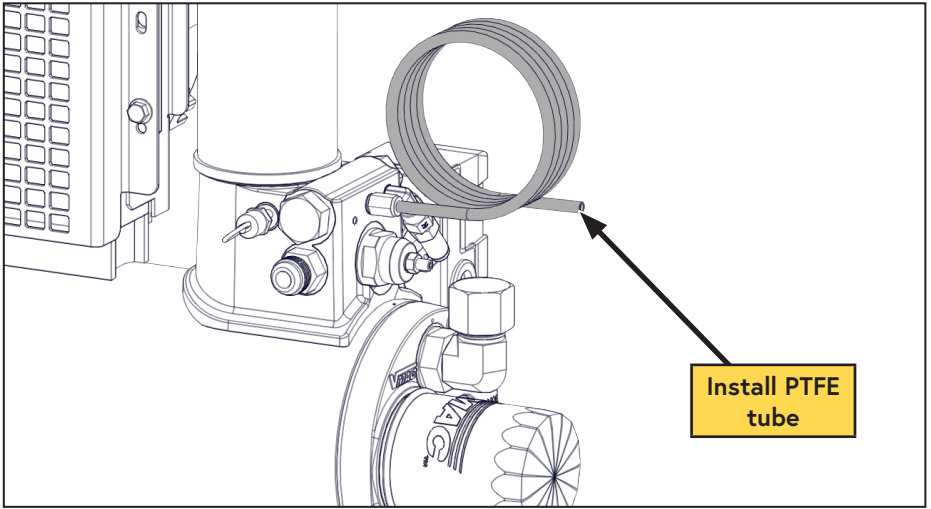

Figure 43 — Tubing Installation
- Connect the 1/4 in PTFE tube into the push-to-connect fitting installed in the WHASP Tank (Figure 43).